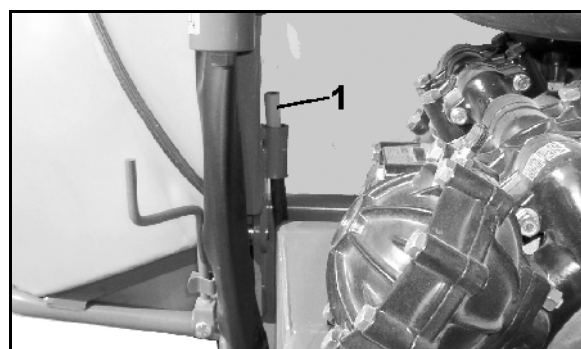

Fig. 40
- The red mark (Fig. 40/1) on the jack indicator is visible when the machine is parked on the hydraulic jack.